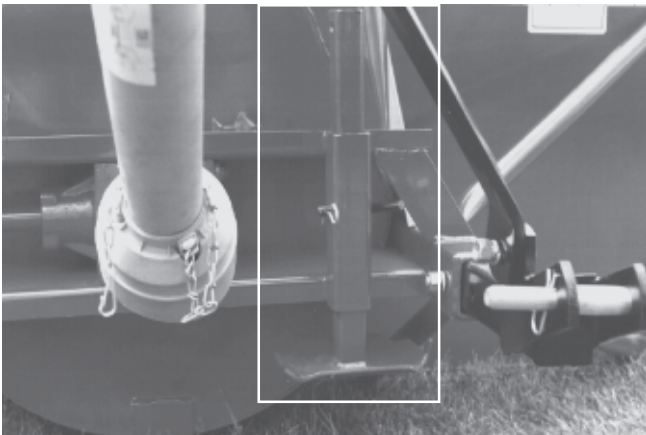

Figure 24
- 6) Following the installation of the Snowblower on the tractor, **do not forget** to lift the storage support (Fig. 24).